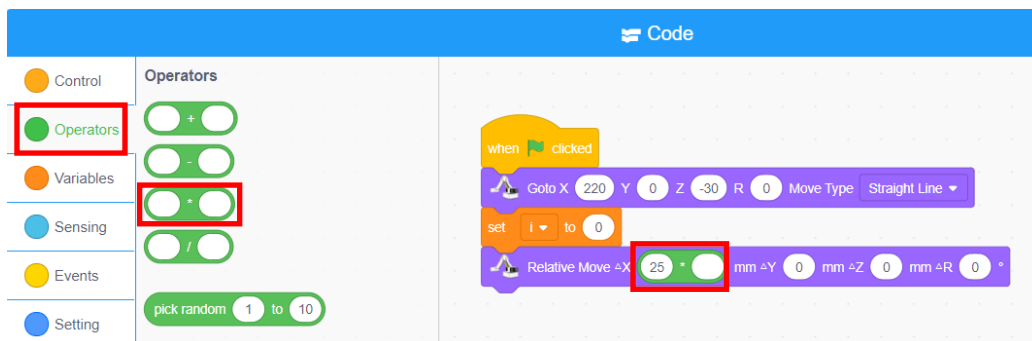

Figure 2.14 Block of operator "*"
- 2) Click the "**Operators**" tab, drag the operator "*" block to the code area, and put it in the oval position after ΔZ . Fill 25 on the left side of the operator "*" block, as shown in Figure 2.14